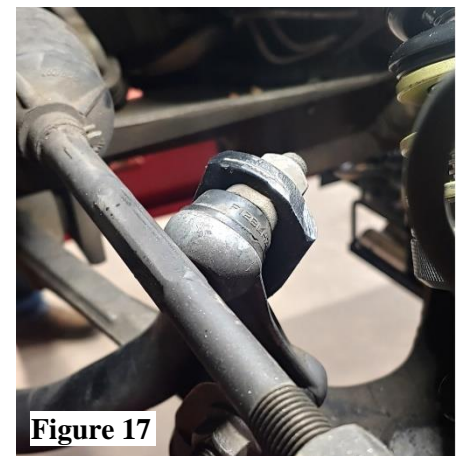

Figure 17
28. Check the clearance of the front sway bar and coil spring at full droop. If necessary, clearance the flat portion of the sway bar to allow a minimum of 1/8" with the coil-over throughout the suspension cycle. **(Figure 17)**